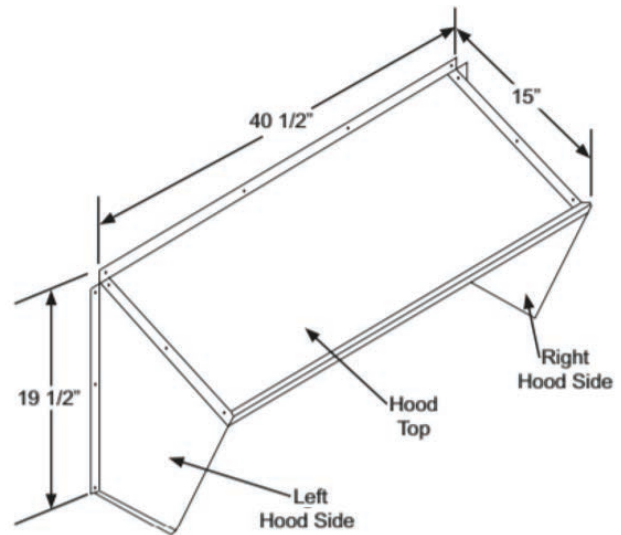

Fig. 33 — CRBARHOD001A00 Hood Sides and Top
5. Using the provided hardware, screw the CRBARHOD001A00 hood sides and top together (see Fig. 33).